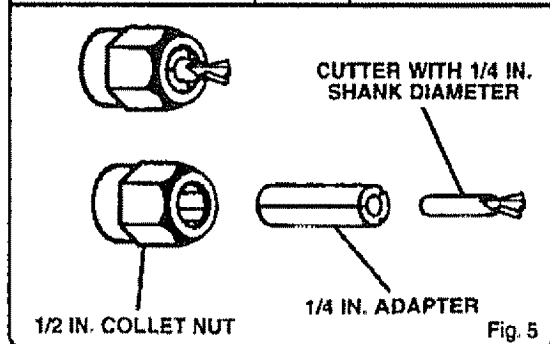

Fig. 5
6. The collet is machined to precision tolerances to fit cutters with 1/2 in. diameter shanks. If using a cutter with a 1/4 in. diameter shank, place the 1/4 in. adapter provided in the collet. See Figure 5.